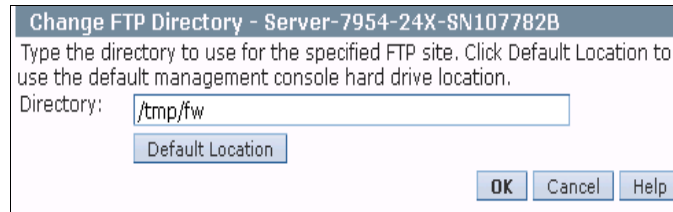

Figure 7-122 Specifying the FTP directory
- The Change FTP Directory window is shown in Figure 7-122. Enter the full path on the FTP server to the system firmware update then click **OK**.